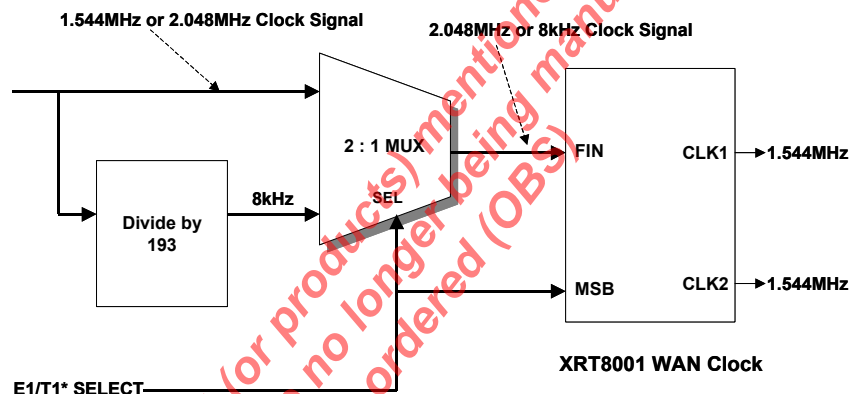
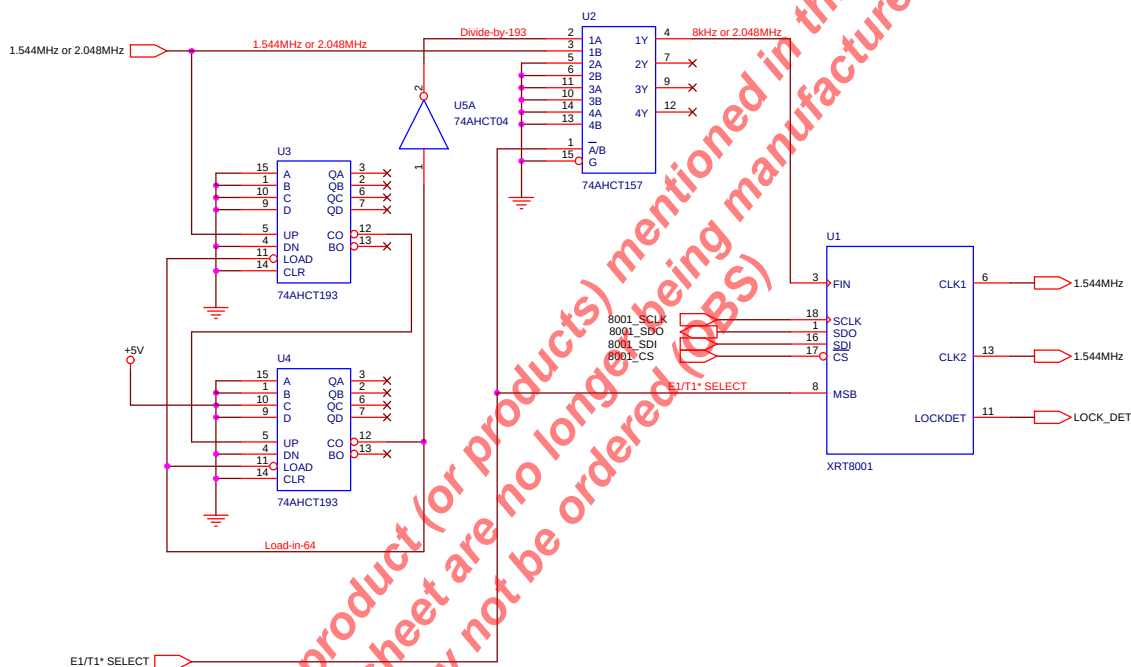

Figure 23: Synthesizing a 1.544MHz clock signal from a 1.544MHz or 2.048MHz clock
Figure 24: Hardware Design Implementation of Figure 23.
In Figure 23, the 1.544MHz or 2.048MHz input clock signal is routed to two locations.
Figure 23 also includes a digital “E1/T1* SELECT” signal. This signal is connected to both the “SEL” input of the “2:1 MUX” and the “MSB” input of the XRT8001 WAN Clock. The basic idea behind this schematic is as follows:
Figure x presents a simple block diagram of a design that can accept either a 1.544MHz or a 2.048MHz clock signal, and synthesize a 1.544MHz clock signal. Now we need to provide some details. Hence, Figure 24 presents a circuit schematic which realizes the function, depicted in Figure 23.
Next, we describe how to configure the circuitry in Figure 24 to accept a 2.048MHz clock signal, and configure it to synthesize a 1.544MHz clock signal by executing five steps. We also describe how to accept a 1.544MHz clock signal and configure it to synthesize a 1.544MHz clock.
Configuring the Circuitry in Figure 24 to accept a 1.544MHz clock signal and synthesize a 1.544MHz clock signal.
Once the user has executed these four (4) steps, then the circuitry in Figure 24 is configured to accept a 1.544MHz clock signal (from the T1/E1 L/U) and synthesize a 1.544MHz clock signal.